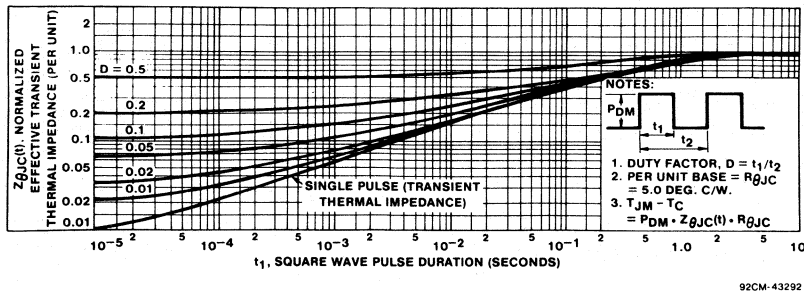

Fig. 5 - Maximum effective transient thermal impedance, junction-
3. Repetitive Rating: Pulse width limited by max. junction temperature. See Transient Thermal Impedance Curve (Figure 5)